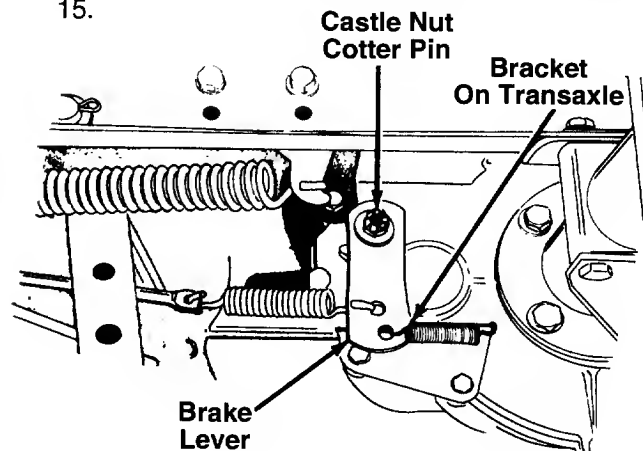

FIGURE 15.
- c. After rod is adjusted to fit over pin, then turn rod **four (4) full turns counterclockwise**. Move speed control lever to second position. Attach rod to pin on variable speed torque bracket, using the flat washer and cotter pin.
11. Adjust the brake by removing the cotter pin. Tighten the nut by hand until the brake lever locks against the bracket on the transaxle. See figure 15.